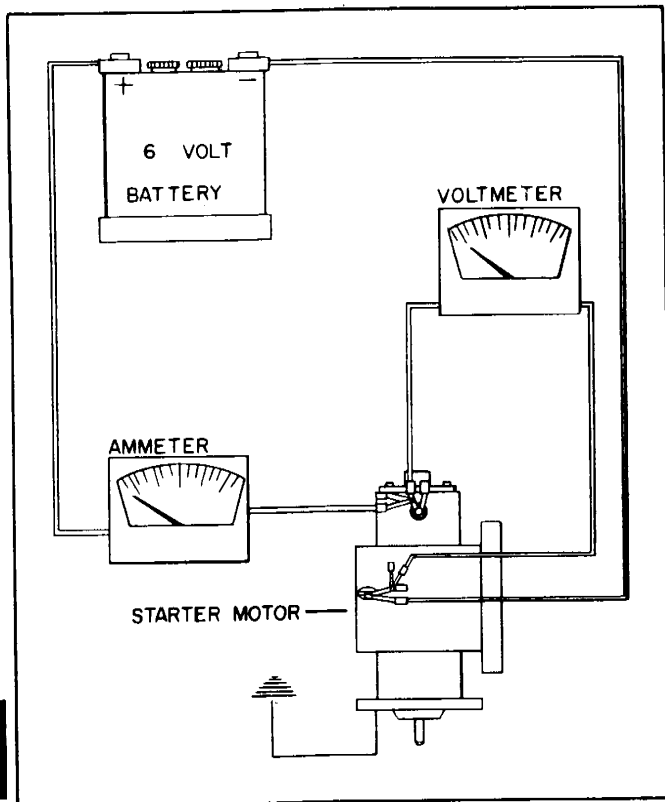

FIGURE 13
1. Connect starter with an ammeter in series to a 12 volt source. Figure 13. Use a tachometer or r.p.m. indicator to indicate armature speed.